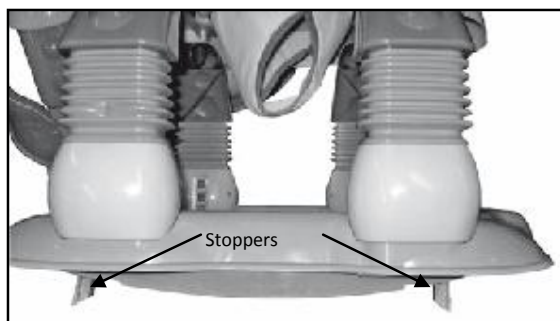

Figure 18
- ✦ To stop rocking action pull out both stoppers at the rocking bar and extend fully, as per **Figure 18**.